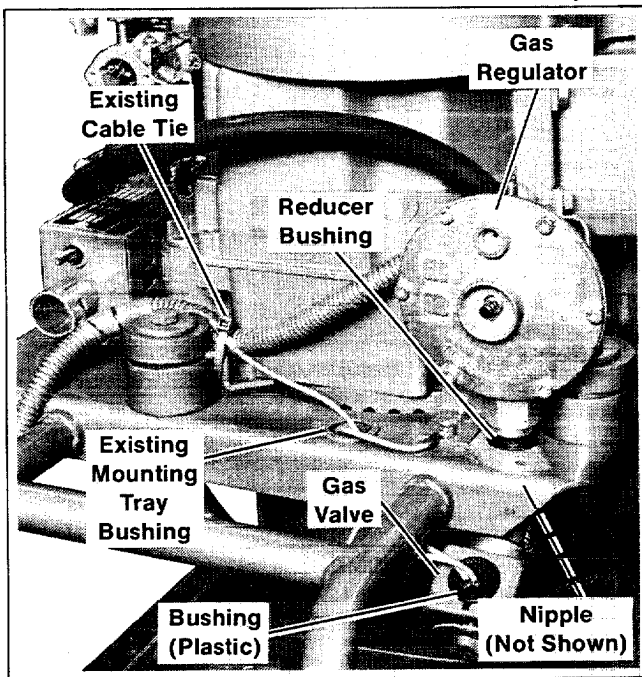

Figure 4. Connecting Gas Valve Leads
7. Cut to length the other gas valve lead to reach #2 lead (fuel pump) of wiring harness, strip end, and crimp-on male push-on terminal (X-431-29). Connect gas valve lead to #2 lead of wiring harness. Locate lead under cable tie used on plastic conduit. See Figure 4.